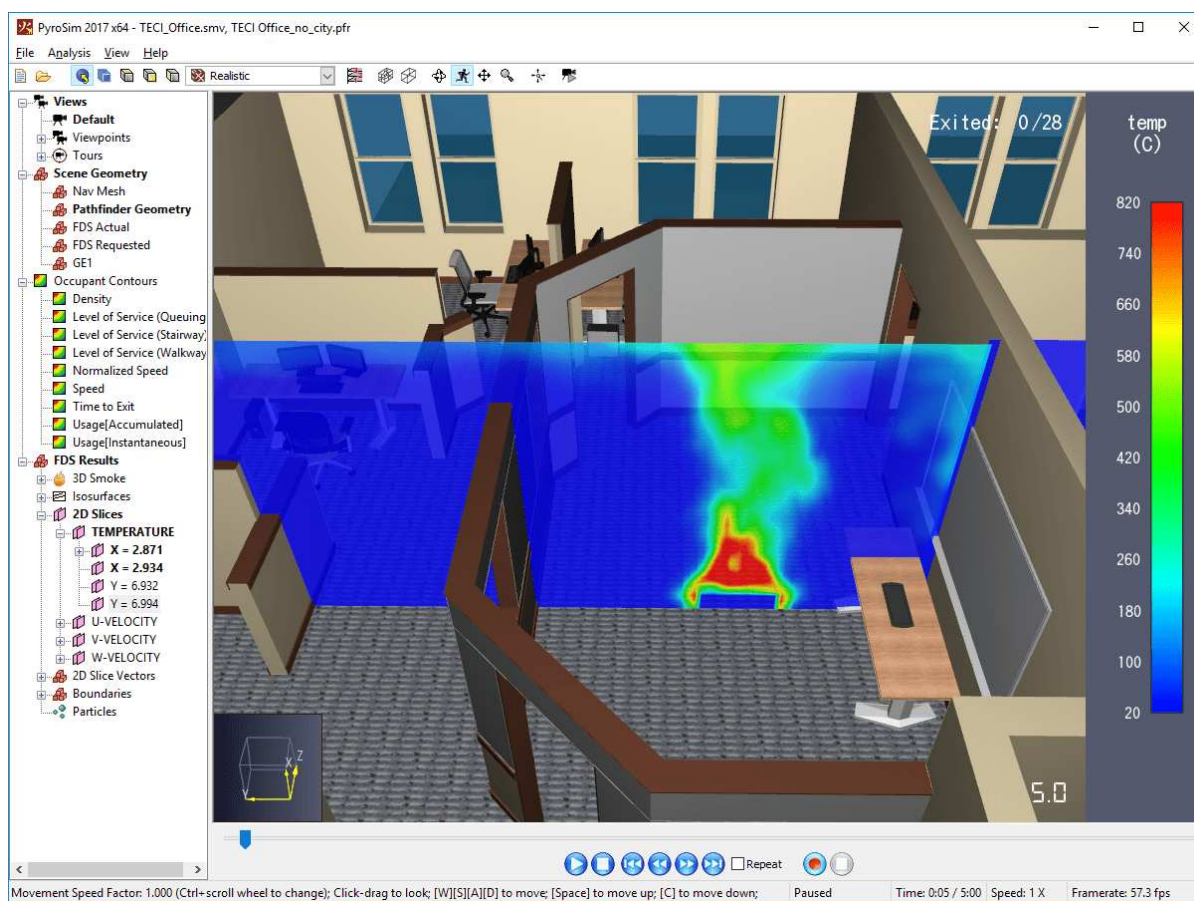

Figure 58. Results colorbar
- If necessary, a colorbar is added to the right side of the main window as shown in Figure 58. The colorbar can be edited as described in Section 6.3.
Nearly all FDS and Pathfinder results data are colored with a colormap (exceptions include 3D Smoke, Particles viewed with the **Default** coloring, and some occupant coloring options). A colormap provides a way to map data values to a color that can be displayed on the screen. When a colormap is in use, it will be shown as a colorbar on the right side of the 3D View as shown in Figure 58. If both FDS Results and Pathfinder occupant contours are displayed at the same time, there may be multiple colorbars displayed at once.
The colorbar shows the colormap as well as which data values are mapped to the colors. At the top, it also shows an abbreviation of the quantity and the quantity's unit in parentheses. In Figure 58, the label "temp" corresponds with the quantity, **TEMPERATURE**, and the unit is **C** for degrees Celsius.